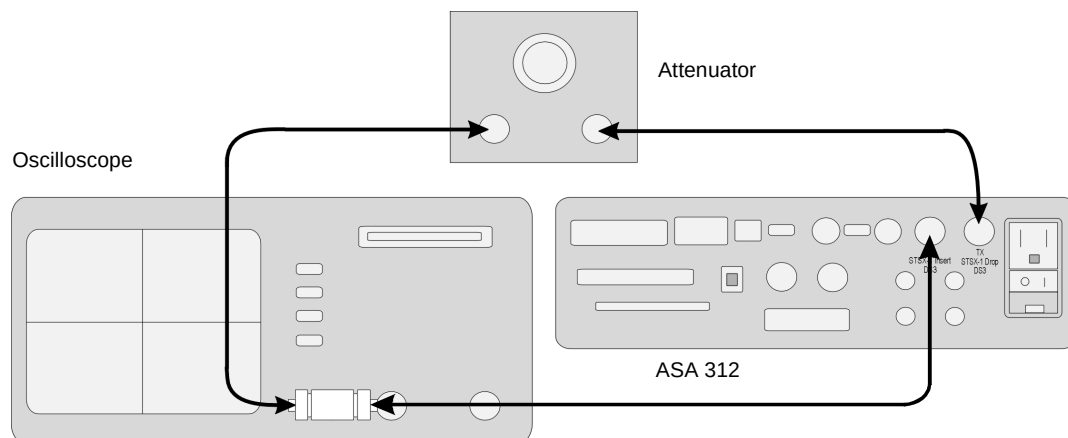

Figure 3-2. DS3 Monitor 90 mV Peak Adjustment Setup
- Attach cables between the ASA 312, attenuator, and oscilloscope to adjust the DS3 signal to 90 mV peak (refer to Figure 3-2)
Use Figure 3-2 to attach cables between the ASA 312, the attenuator, and the oscilloscope: